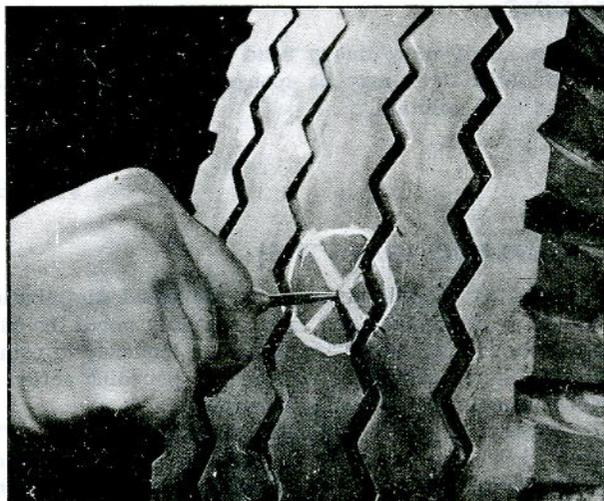

Fig. 7—Cleaning Hole with Awl
1. Clean out the injury with an awl or hand rasp furnished with the tire repair kit (fig. 7).